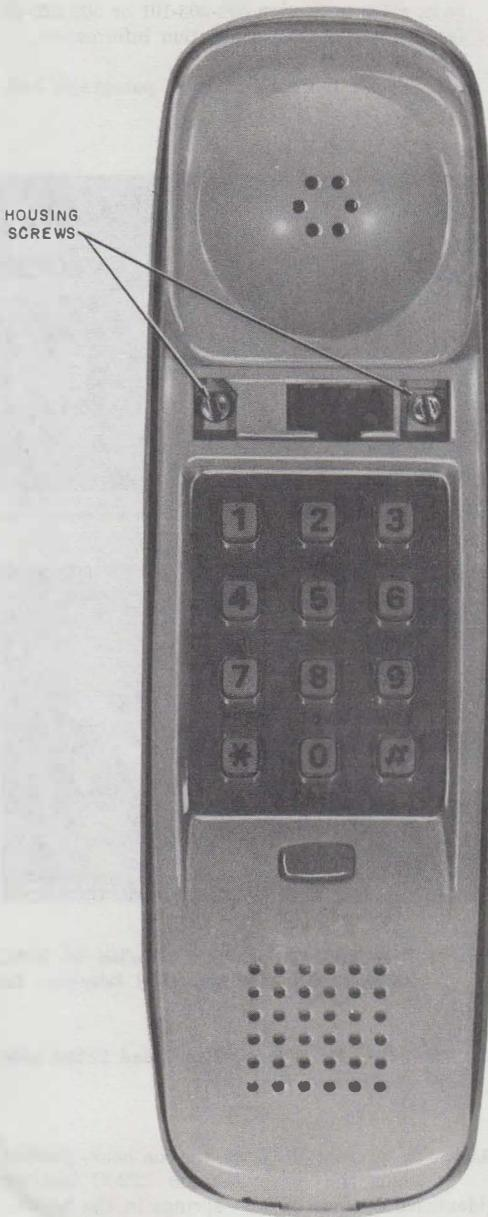

Fig. 6—Location of Housing Screws
3.01 The plastic deck and shell of these handsets are held together by two screws located under the cover above the dial (Fig. 6.) If necessary to open hand telephone set, refer to paragraphs 3.02 and 3.03.